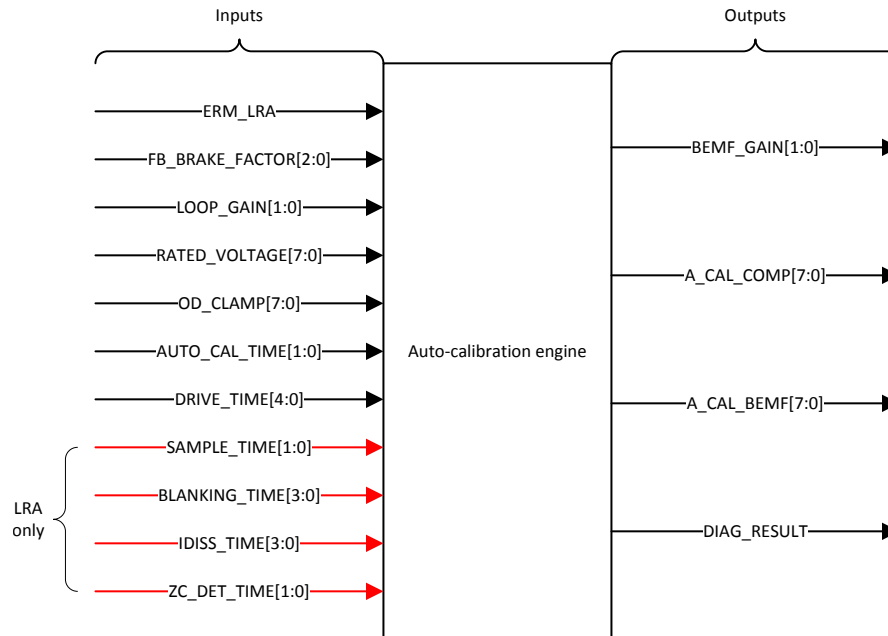

Figure 28. Calibration-Engine Functional Diagram
The calibration engine requires a number of parameters as inputs before the calibration can be executed. When the inputs are configured, the calibration routine can be executed. After calibration execution occurs, the output parameters are written over the specified register locations. Figure 28 shows all of the required inputs and generated outputs. To ensure proper auto-resonance operation, the LRA actuator type requires more input parameters than the ERM. The LRA parameters are ignored when the device is in ERM mode.
4. Write a 1 to the GO bit to start the auto-calibration process. When auto calibration is complete, the GO bit automatically clears. The auto-calibration results are written in the respective registers as shown in Figure 28.